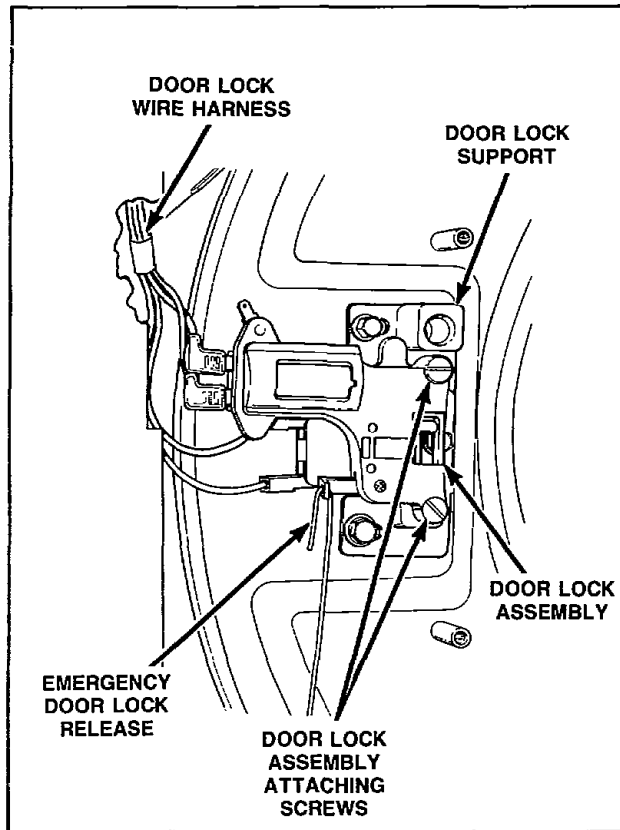

Figure 10
- m. Disconnect the wire harness from the door lock assembly, *Figure 10*.
- n. Remove the two flat head screws holding door lock assembly to the door lock support, *Figure 10*.